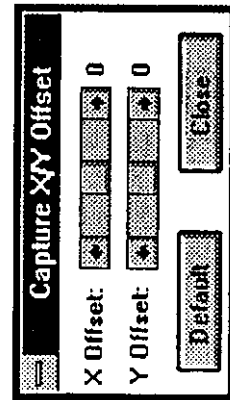

Figure 3-25.
6. SELECT "capture X/Y Offset" to adjust the color within the video window if the color does not appear correct (see Figure 3-25).